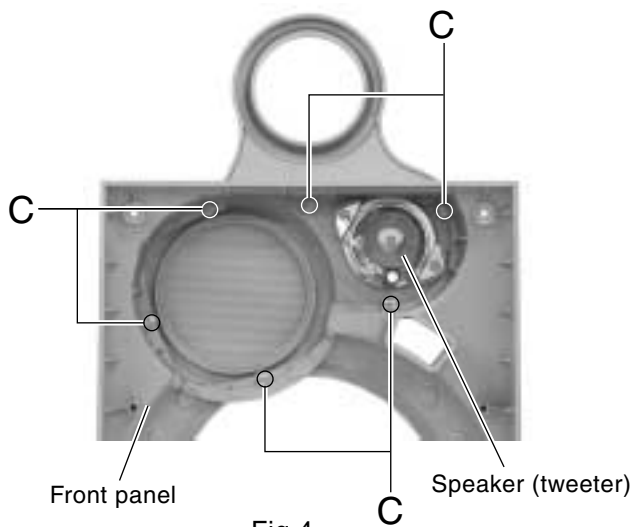

Fig.4
**■ Removing the sub panel (See Fig.4)**